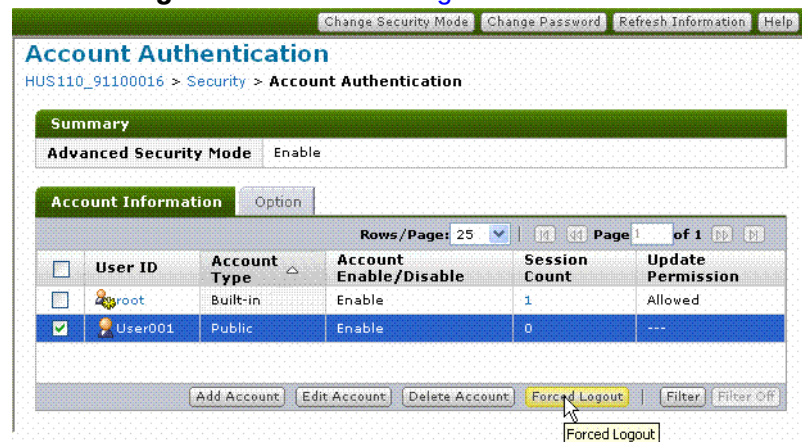

Figure 5-13: Account Authentication - Account Information tab, forcing logout
5. Select the account you want to forcibly log out from Account list, then click **Forced Logout** as shown in Figure 5-13.